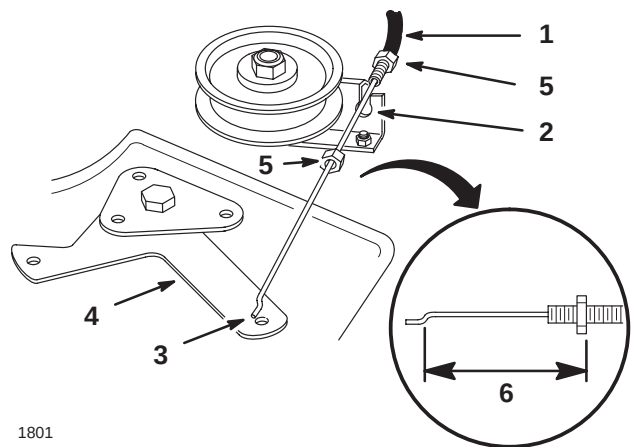

Figure 45
21. Route the cable through the slot in the deck bracket and thread the second jam nut onto the cable (Fig. 45).
22. Hook the Z end of the blade control (PTO) cable into the bellcrank arm (Fig. 45).
24. Measure the distance between the Z end of the cable and the mounting bracket (Fig. 45).
25. Adjust the jam nuts until you obtain a 3-1/2 in. (89 mm) (Fig. 45).